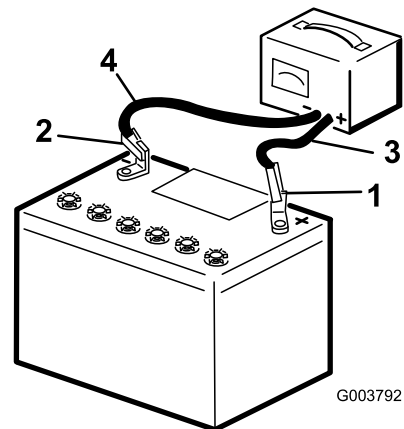

Figure 42
2. Charge the battery at a rate of 3 to 4 A for 4 to 8 hours (Figure 42). Do not overcharge the battery.
3. When the battery is fully charged, unplug the charger from the electrical outlet, then disconnect the charger leads from the battery posts (Figure 42).